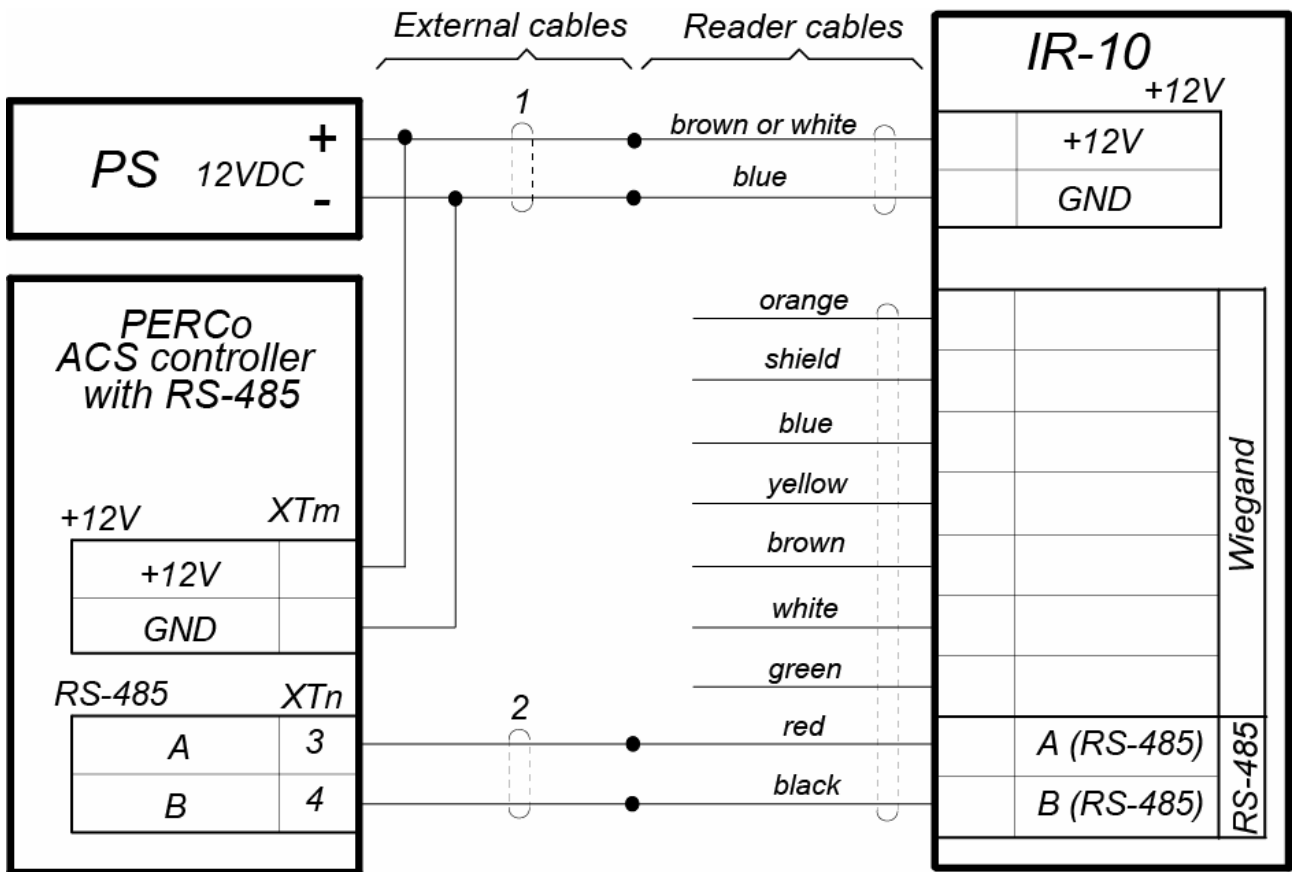
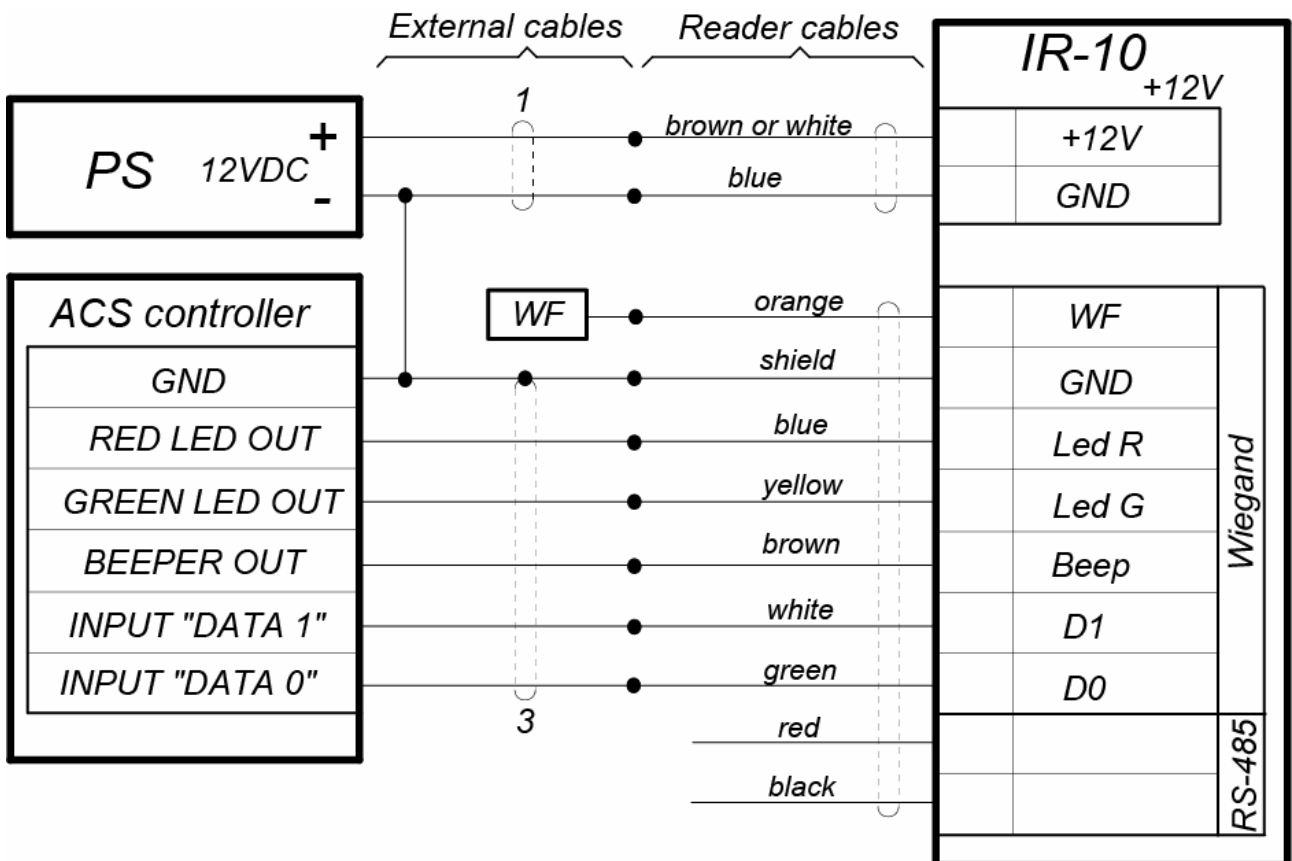

Figure 5. Connection layout for RS-485 interface of PERCo Web controller
Figure 6. Connection layout for Wiegand interface of ACS
Changing of format of *Wiegand* interface output data is defined by connection point of orange wire (WF – *Wiegand-Format* on Fig. 6) at the output of standard connection cable of the reader. Connection point is selected according to Table 3.
6. Lay cables, fix them and connect them to the ACS controller in accordance with Fig. 5 and Fig. 6 or with the controller manual. Types of required cables are given in Table 4.